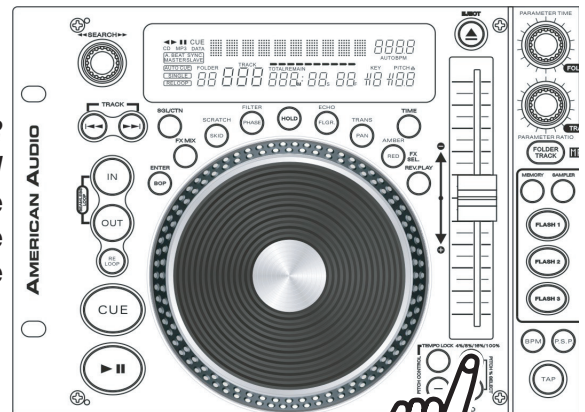

Figure 42
Adjusting the PITCH SLIDER'S RANGE: You may change the **PITCH SLIDER'S** (36) operating range at any time. To change the operating range be sure the pitch function is turned on, see figure 42. The pitch percentage can be changed between +/-4%, +/-8%, +/-16%, and +/- 100%. 4% will allow the least amount of pitch manipulation and 100% will allow the most amount of pitch manipulation. To adjust the different values, press and hold down the **PITCH ON/OFF BUTTON** (35) and Tap on the **+ PITCH BEND BUTTON** (27) until your desired value is reached. Note, the pitch percentage must be activated to get a LED reading.